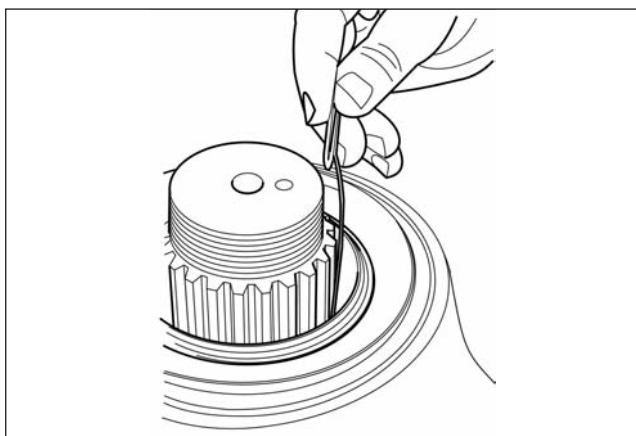

Fig. 4.11
6. Check seal spring has remained in position. (Fig. 4.11)